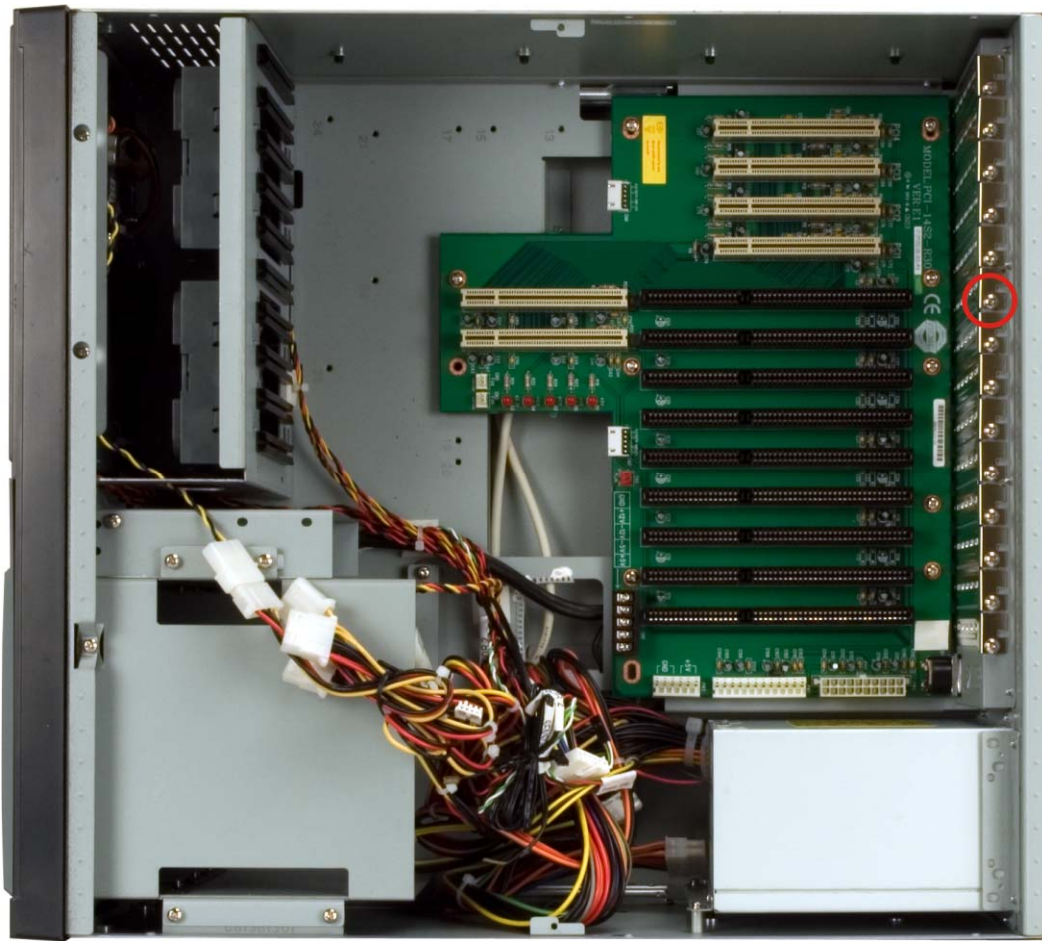

Figure 4-12: Slot Cover Retention Screw
- Step 1:** Remove the slot bracket from the chassis rear panel by removing the slot cover retention screw (**Figure 4-12**).